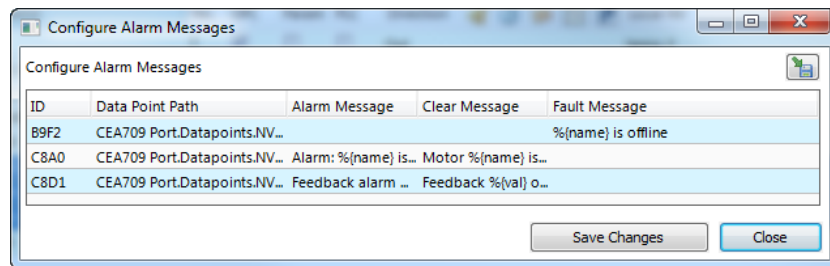

Figure 59: Spreadsheet for multi-edit of alarm messages.
- **Configure Alarm Messages:** Use this option from the context menu for editing alarm messages (alarm, clear, fault) for all data points in the selection. A dialog with a spreadsheet view appears as shown in Figure 59. Edit the messages directly in the spreadsheet. Alternatively, click on the export button  to export the spreadsheet as a CSV file for editing in Excel. Import a CSV file with alarm messages in the menu **Tools → Import alarm messages**.